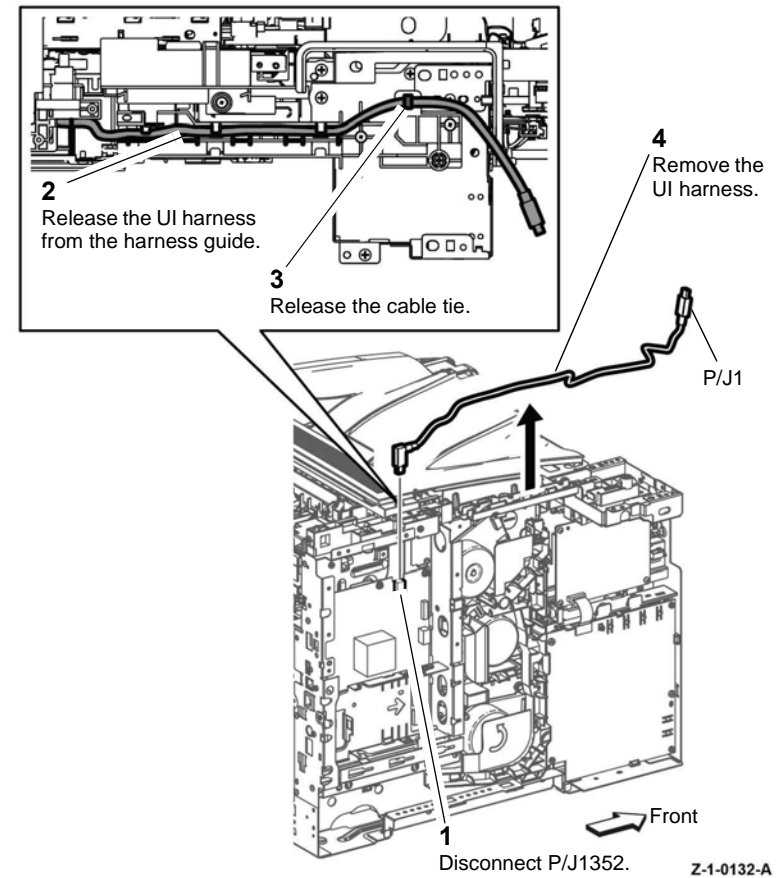

Figure 2 UI harness assembly C400
5. Remove the UI harness assembly, Figure 2.